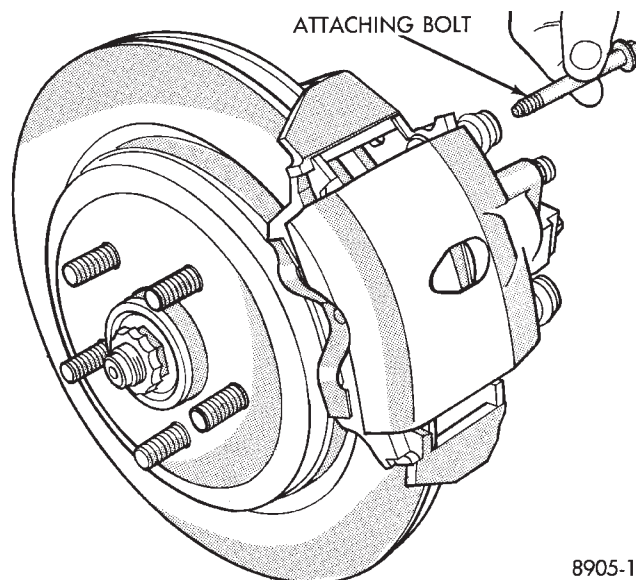

Fig. 2 Removing Caliper Attaching Bolts
- (1) Raise vehicle on jackstands or centered on a hoist.
- (2) Remove rear wheel and tire assemblies.
- (3) Remove caliper attaching bolts (Fig. 2).